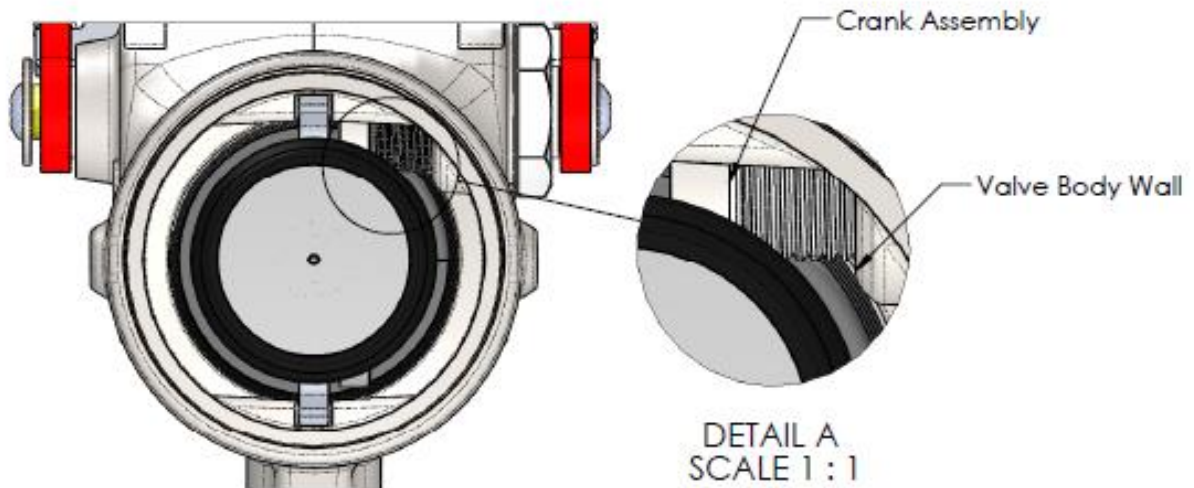

Figure 1
6. When removing Bonnet, Insert screw driver between Valve Body wall and Crank Assembly to prevent galling of Crank Assembly (Figure 1). Remove Bonnet, Bonnet O-Ring and Crank O-Ring. Retain Bonnet and discard Bonnet O-Ring and Crank O-Ring.